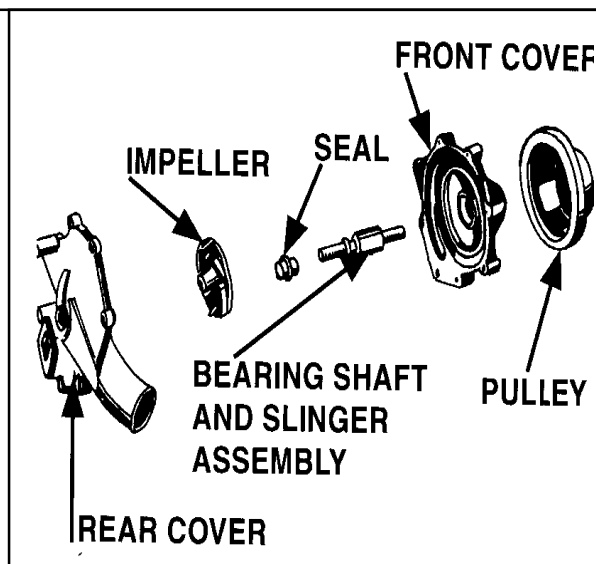

Figure 5
1. Figure 5 is an exploded view of the water pump. Use it for reference during reassembly.